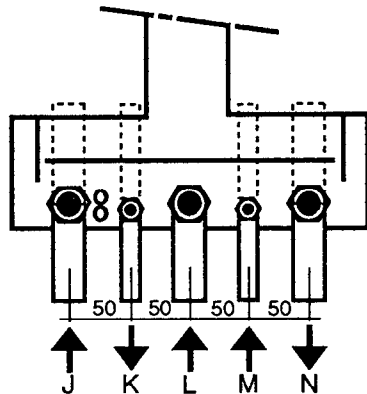
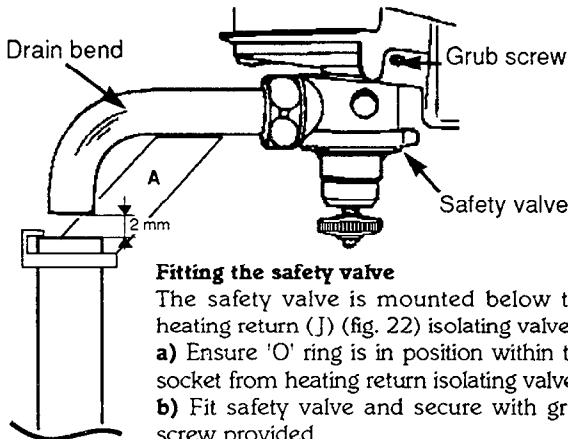

Fig. 22
Fig. 24
The safety valve is mounted below the heating return (J) (fig. 22) isolating valve.
- c) Fit support bracket (A).
N.B. The drain must be 22 mm and the 14 mm drain bend from the safety valve must be installed so that discharge of water is readily visible. A tundish arrangement is acceptable. The connection must NOT be made by a capillary or compression fitting directly between the 14 mm drain bend and the 22 mm discharge pipe without an 2 mm air gap. see fig. 24.